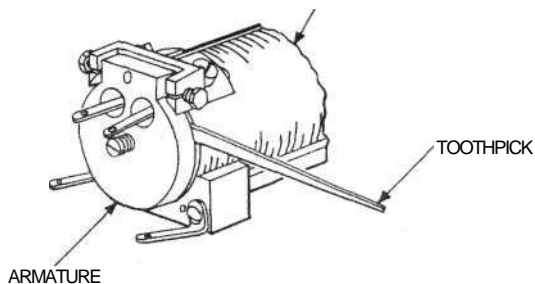

Fig. 13—Blocking 44-Type Relays - Nonoperated
- (2) To block relays nonoperated, deflect the legs of the KS-19914 wedge toward each other and insert them between the armature and the core with the beveled edges toward the core.
3.10 44-Type Relays and 22-, 35-, and 56-Type Drops: Fig. 13—Block this apparatus nonoperated by inserting a toothpick between the armature and the frame or shell.